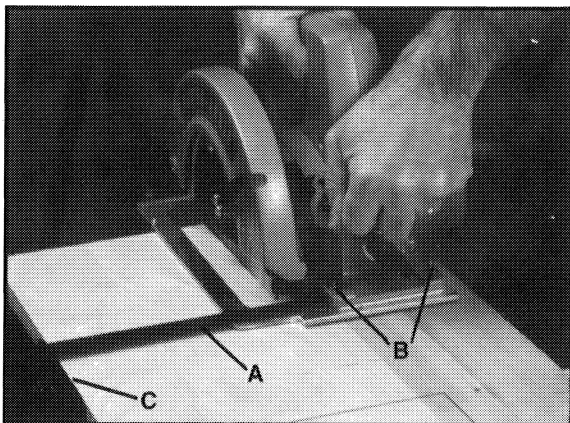

Fig. 9
WARNING: It is important to support the work properly and to hold the saw firmly to prevent loss of control which could cause personal injury. Figure 9 illustrates typical hand support of the saw.
Cutting wood lengthwise, with the grain, is known as ripping. For narrow rip cuts, a handy accessory, number 53124 Rip Guide, can be used. Insert the rip guide bar (A), Fig. 9, under the bridge on the front of the saw base. Thread the rip guide screws with springs (B) into the top of the bridge. Adjust guide for desired width of cut, taking into consideration the blade thickness so the work will not be cut too wide or too narrow.
Firmly tighten screws. The saw is guided by keeping the guide (C) against the edge of the board, as shown in Fig. 9.